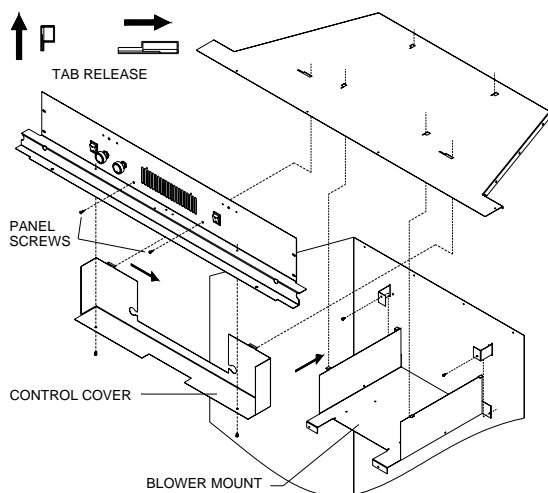

Figure 20 - Disassembling Blower Mount
2. Remove 2 Phillips screws holding the control cover to the control panel inside the firebox (see **Figure 20**).
3. Slide the control cover to the right and swing out the locking tabs from the notched openings on top. See detail on **Figure 20**.
5. Remove the 2 Hex screws at rear blower mount. See **Figure 20**.
6. Slide the blower mount towards the rear firebox until the locking tabs line up with the notched openings and lower the mount down and away. See detail **Figure 20**.
20. Raise the control cover up and position the 2 locking tabs through the notched openings in the firebox top, then slide to the left until locked into position. See **Figure 20**, page 9.
3. Remove 2 Phillips screws holding the control cover to the control panel inside the firebox (see **Figure 20**, page 9).
4. Slide the control cover to the right and swing out the locking tabs from the notched openings on top. See detail on **Figure 20**, page 9.